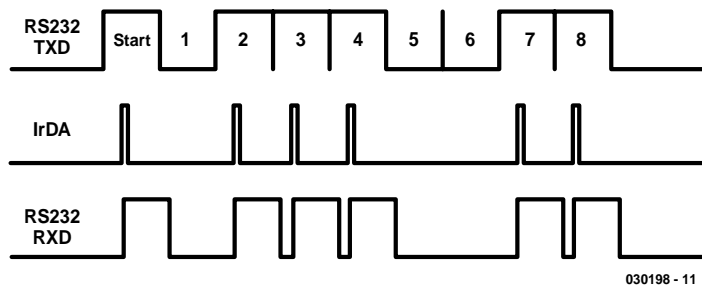

Figure 1. RS232 and IrDA signals.
**Figure 1** shows serial signals on an RS232 interface compared with those on an IrDA interface. The IrDA receiver just needs to extend the light pulses suitably in order to create a signal that can be read by a normal RS232 interface.